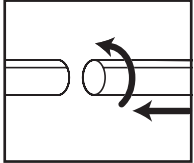

FIGURE 13
12. Press down on center of hose holder until tab latches on bottom of tank cover. **FIGURE 13.**